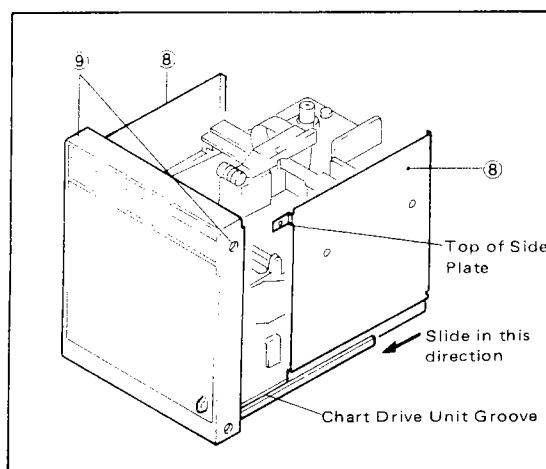

Figure 10-15. Mounting Side Plate.
- (8) Insert side plates in the grooves located on the inside bottom of the chart drive unit. Slide the plates forward to the rear of the front panel (see Figure 10-15).